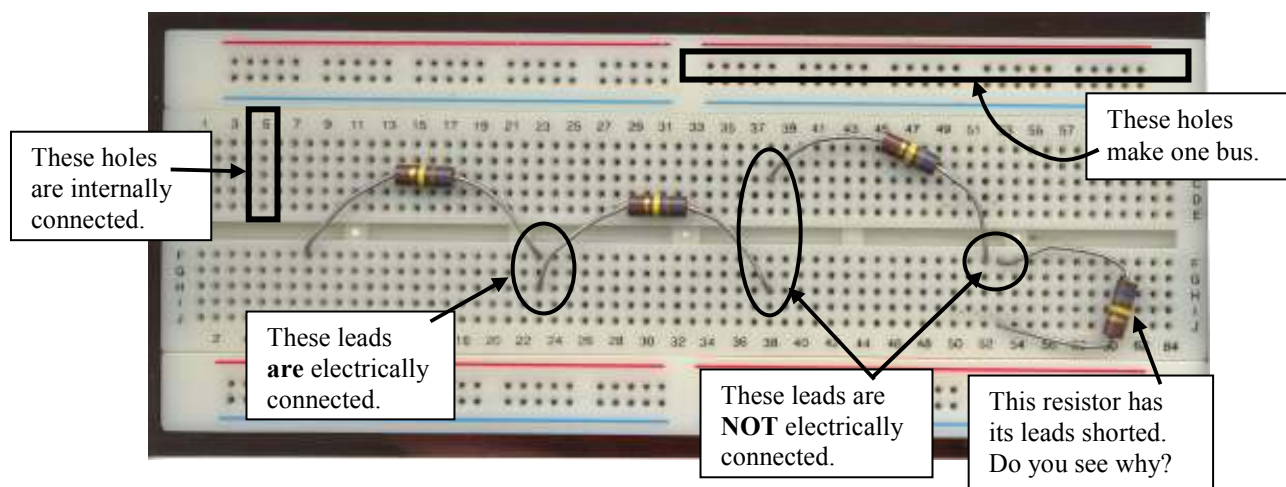

Figure 12. The Breadboard
A breadboard is a device used to facilitate the building and testing of circuits. The breadboard allows pre-stripped wires to be connected between power supplies, resistors, and other components easily and without making any permanent connections. Testing and modifying a circuit is made easier by using a breadboard. Figure 12 below illustrates the layout of a breadboard. A typical breadboard looks like an array of holes that are internally connected. The breadboards in this lab contain busses for connecting various power levels and reference points. The breadboard depicted in Figure 12 has eight (8) busses of 25 points each. These busses are labeled by the red and blue lines shown on the breadboard across the top and across the bottom. Each bus has 25 tie points that are shorted together but insulated from all other points on the breadboard. For example, all points in the upper right red bus are electrically connected but insulated from any other tie points on the board. That is, if +5V is tied to any point on this bus, all other points in this bus are also at +5V. In addition to the eight power busses, the breadboard has a number of five-point tie points that run perpendicular to the power busses. These five-point tie points are arranged in pairs that are separated by a recessed channel that runs across the length of the breadboard in the middle. These pairs are, of course, electrically insulated. Also, the spacing between adjacent tie points corresponds to the standard spacing between commonly used integrated circuits (ICs). This allows such devices to be interconnected easily to power supplies and components. In Figure 12, the five-point tie points are labeled with numbers that run from 1 to 64 (but for space reasons only the odd numbers are displayed on the board). All five points in any column (column 5, for example in the picture below) are electrically connected but insulated from all other points on the board. Circuits are constructed on the breadboard by connecting components and wires between tie points. Note the examples in the picture.